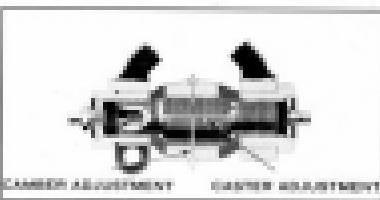

Fig. 109. Eccentric Pin
1. Place a square on the floor at right angles to the wheel as illustrated in Fig. 109. The distance between the square and the felloe of the wheel at the top should be $9\frac{1}{16}^{\prime\prime}$ less to $5\frac{1}{16}^{\prime\prime}$ more than the distance between the felloe and square at the bottom of the wheel. The total variation between the two sides of the car should not be more than $9\frac{1}{16}^{\prime\prime}$.